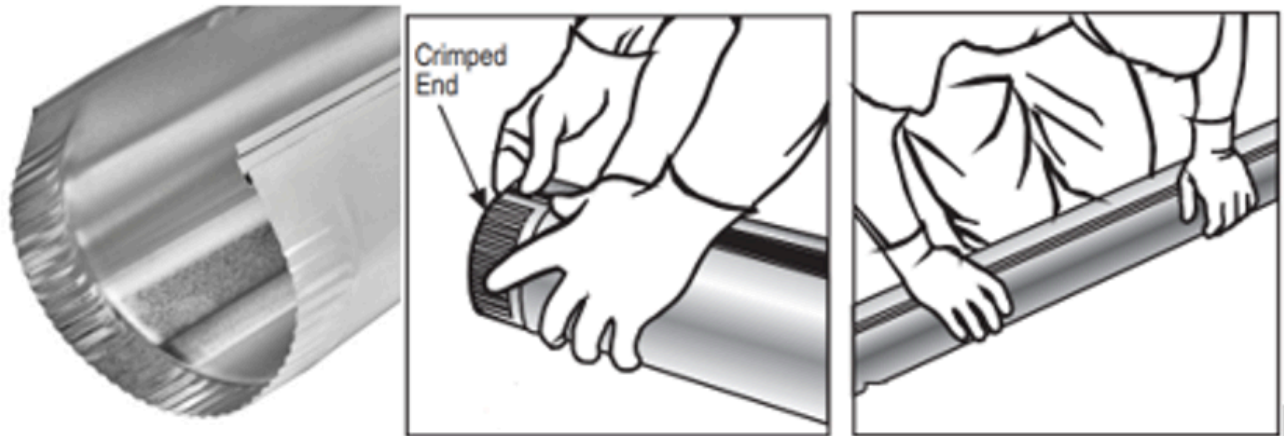

Figure 14. Round duct assembly
To create finished pipe lengths, start at the crimped end and snap the two sides together (Figure 14). Hold together with one hand and move down the pipe as the seam snaps in. When you get halfway, it should snap fully closed.
- Figure 14. “Round duct assembly” by Camosun College is licensed under a CC BY-NC-SA licence.